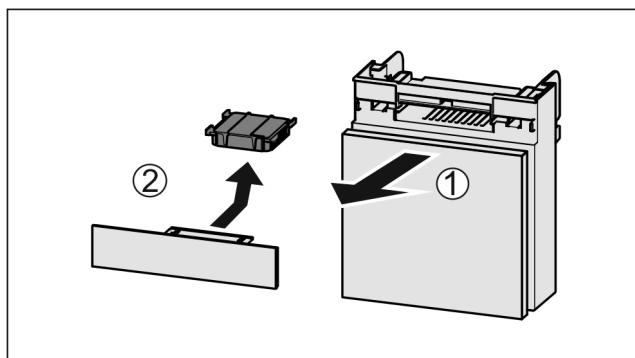

Fig. 177
- Pull out the compartment Fig. 177 (1).
- Remove the carbon filter Fig. 177 (2).